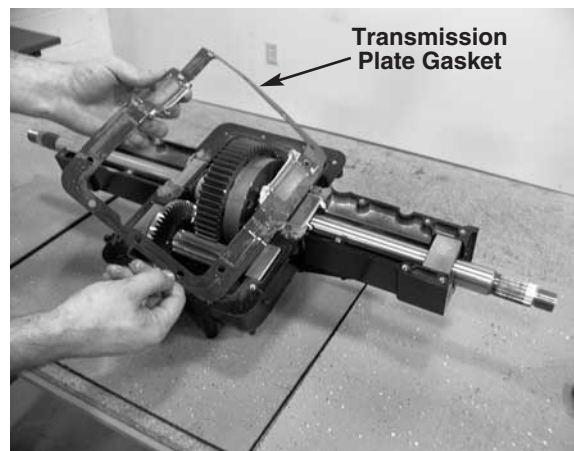

FIGURE 11.
28. Remove and discard the second transmission plate gasket. See figure 11.